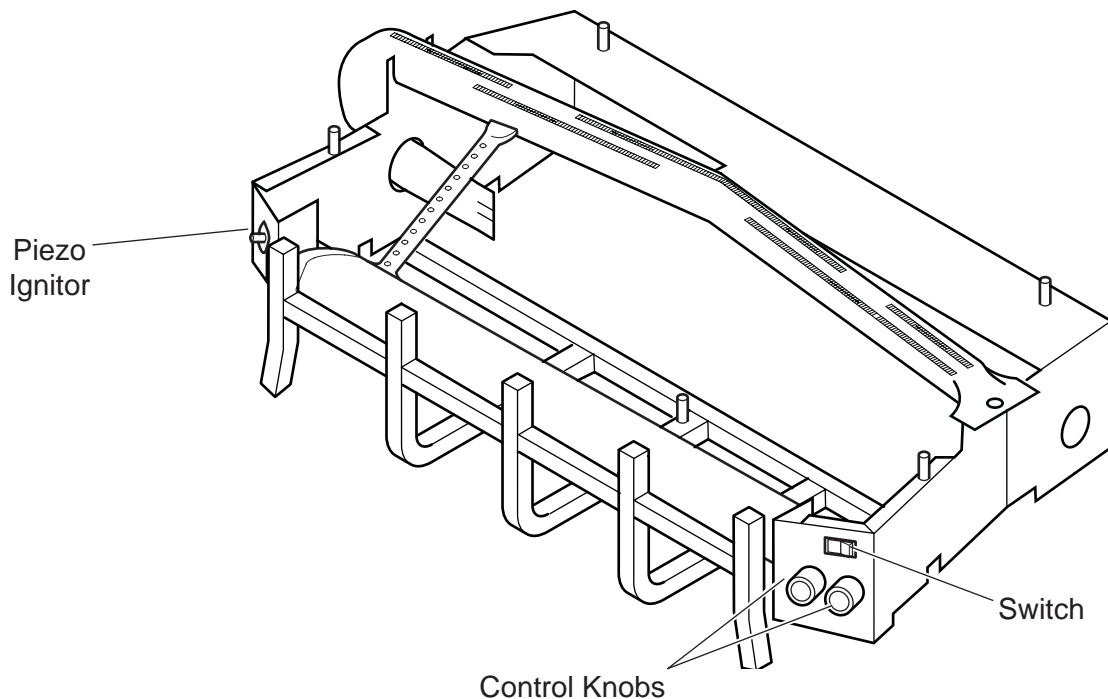

Figure 32 - Location of Piezo Ignitor, Control Knobs and Switch on Milli-volt and Manual Units
4. Refer to *Figure 32, page 29* for the location of the piezo ignitor and control knob. Push in gas control knob slightly and turn control knob clockwise  to the OFF position.